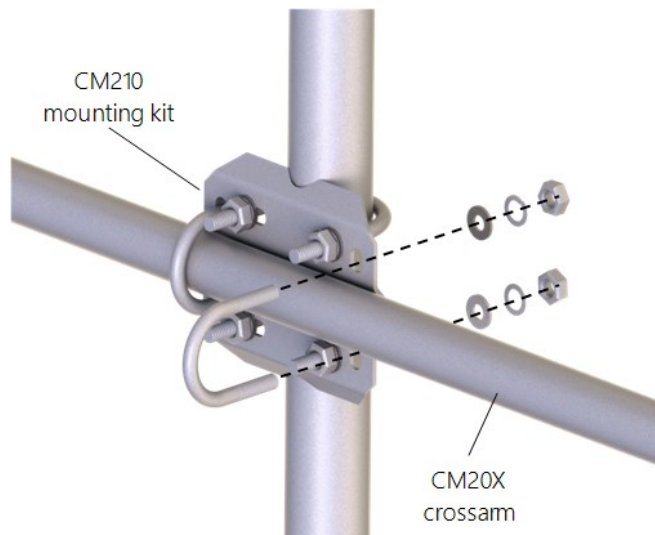

Figure 6-2. CM210 mounting kit with CM20X crossarm
1. Secure the chosen crossarm to a tripod or other vertical structure using a CM210 crossarm-to-pole mounting kit as shown in Figure 6-2 (p. 32).